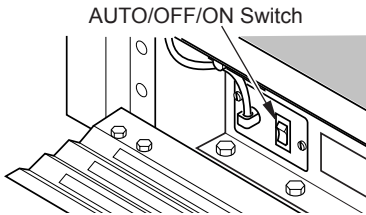
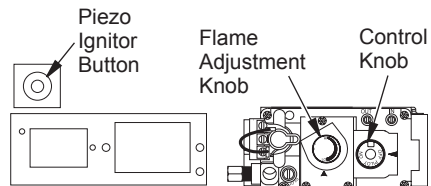

Figure 44 - AUTO/OFF/ON Blower Switch
Figure 45 - Control Knob and Ignitor Button Location (Shown as Supplied - No Control Options)
3. Press in and turn control knob clockwise  to the OFF position (see Figure 44).
4. Wait five (5) minutes to clear out any gas. Then smell for gas, including near the floor. If you smell gas, **STOP!** Follow "B" in the safety information, column 1. If you don't smell gas, go to the next step.
5. Press in and turn control knob counter-clockwise  to the PILOT position. Press in control knob for five (5) seconds (see Figure 45).